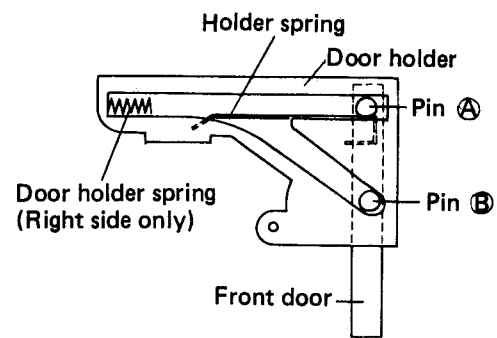

Fig. 2-4 Door operation 3
6. The front door movement is guided by the door holder and holder spring. Pin (A) of the door is passed to the top of the door holder, while pin (B) is passed to the groove along the bottom of the holder and to the bottom of the holder spring (see Fig. 2-4).